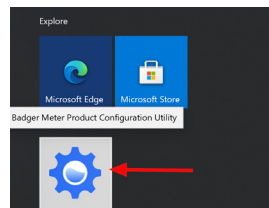

Figure 13: Software shortcut
2. Select **Badger Meter Product Configuration Utility** from the Windows **Start** menu. Alternatively, you can also open PCU by clicking the shortcut that displays in the **Start** menu (Figure 13).